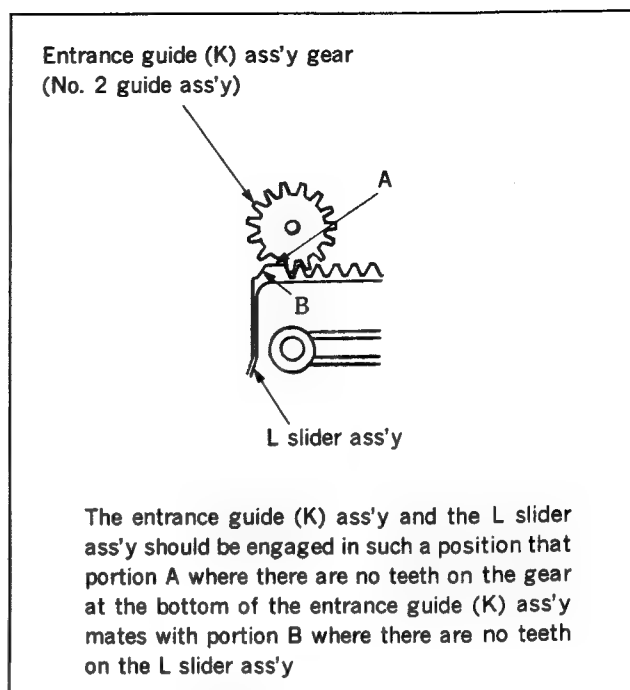

Fig. 4-11-2 Engaging the entrance guide (K) ass'y gear
- 1) Hold the loading ring to the unthreaded end position, then install a new entrance guide (K) ass'y in the mechanical deck.
- 2) When installing the entrance guide (K) ass'y, be sure that the gear of the entrance guide (K) ass'y and the teeth of the L slider ass'y should have the relative positions as shown in Fig. 4-11-2.